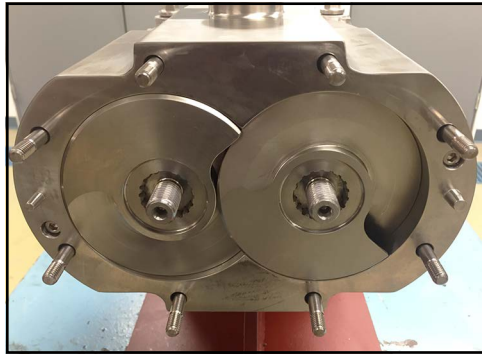

Figure 114 - Screws installed
9. Figure 114 shows the screws installed in the pump (030-UTS pictured).